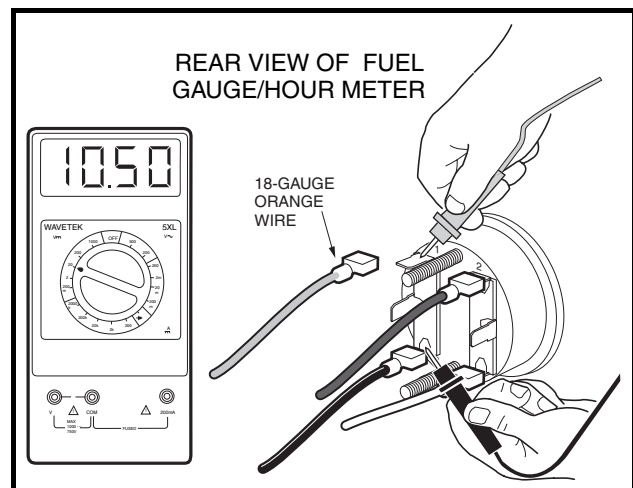

Figure 11-31 Fuel Gauge Voltage Test
8. The orange wire should remain disconnected for this step. With the black probe still on the terminal (3) of the fuel gauge/hour meter, place the red (+) probe of the multimeter on the (1) terminal of the fuel gauge/hour meter. The voltage reading should be the same as the full battery voltage reading obtained in step 4. If the reading is incorrect, replace fuel gauge/hour meter (**Figure 11-31, Page 11-31**).